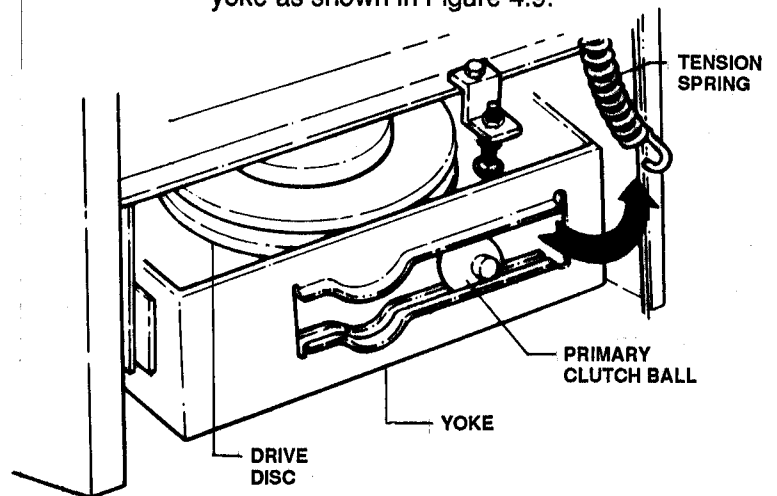

FIGURE 4.9
- D. Unhook Tension Spring from R.H. side of yoke as shown in Figure 4.9.